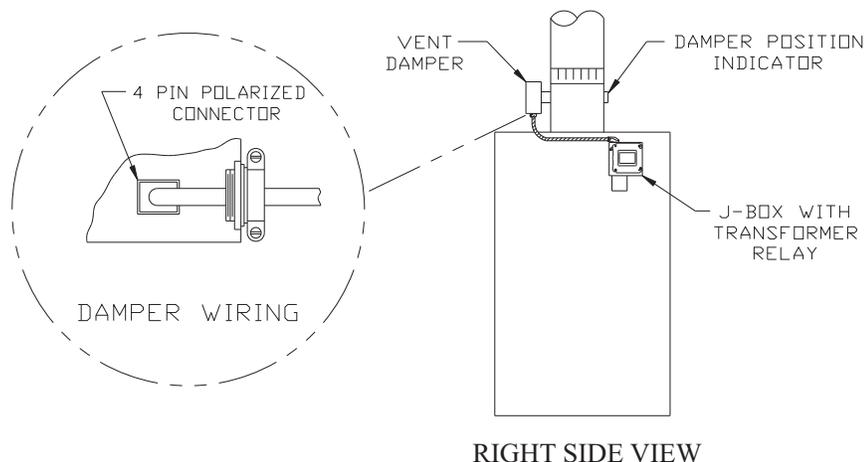

Figure 7-2: Vent Damper Installation Details
10. The vertical section of vent pipe coming off the boiler should be as tall as possible, while still maintaining the proper clearance from the horizontal vent connector to combustibles and the proper pitch called for in (9) above.
14. Installation of the vent damper supplied with this boiler is mandatory. Install vent damper (see Figure 7-2) as follows: